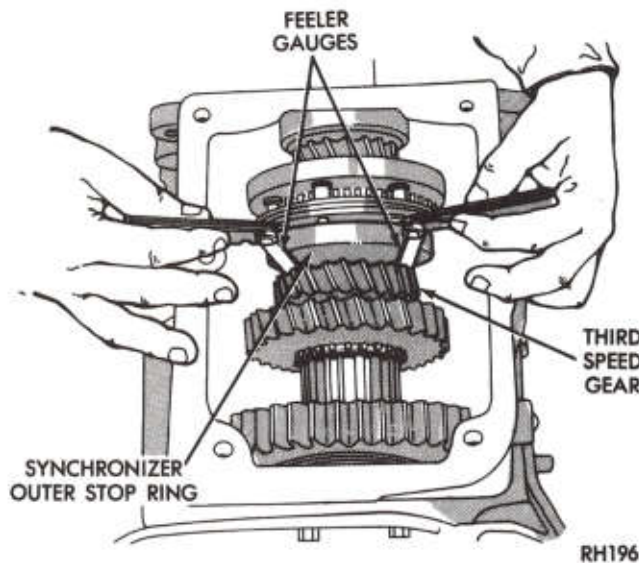

Fig. 3—Measuring Synchronizer End Play
(1) Before removal and disassembly of drive pinion and mainshaft measure end play between synchronizer outer stop ring and third speed gear (Fig. 3). **Record reading for reference during build-up.** Note deviation from ideal .050 to .070 inch allowable end play so that correction shims can be installed during assembly. Thick or thin shims are available as required.